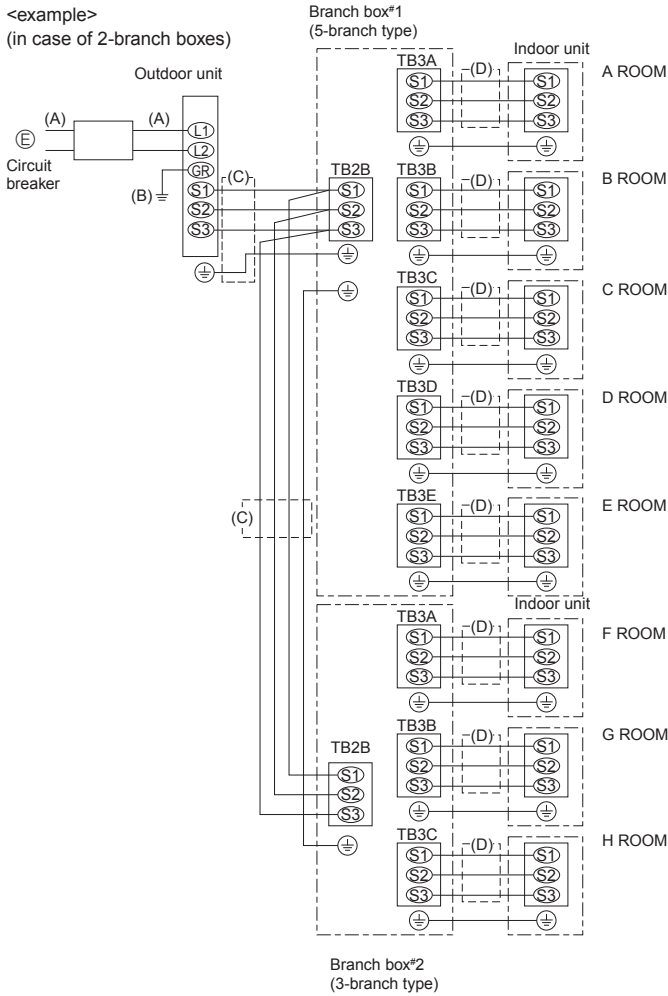

Fig. 9-9
9.2. External wiring procedure (Fig. 9-9)